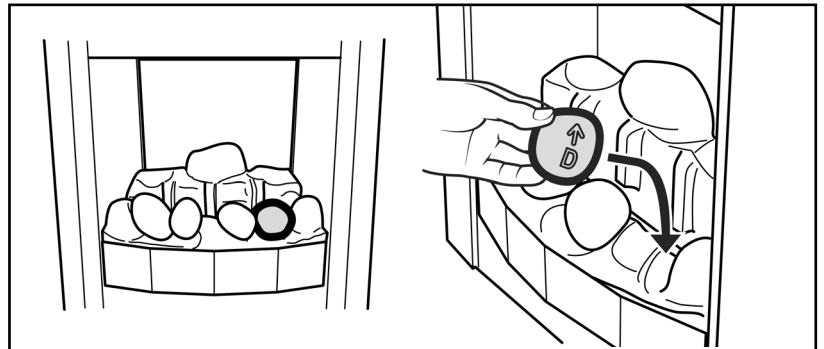

Figure 16.
6. Hold pebble 'D' upright with the arrow pointing to the top. Place pebble "D" on top of the base front pebble. It should rest against the moulded pebble to its right. (See figure 16).